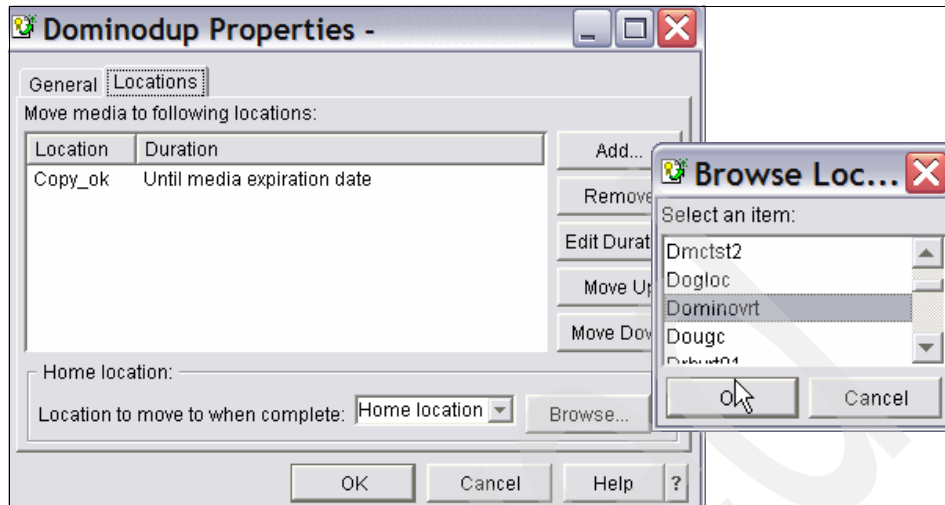

Figure 5-53 BRMS move policy for virtual volumes, Properties - Locations tab
2. In the window shown in Figure 5-53 on page 240, click the **Locations** tab. The field Location to move when complete probably states Home location. This means that the volumes go back to where they came from. In this scenario, we want them to go back to the location Dominovrt in all cases.
Use **Browse...** to select the location you want as the end station when the virtual volumes' retention period is up (in this scenario, it is **Dominovrt**). Click **OK**, as shown in Figure 5-53 on page 240.